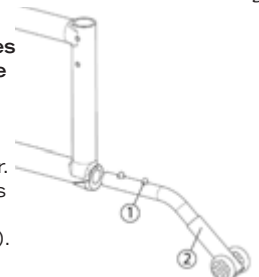

Fig. 8
- Anti-tippers (Fig. 8) were designed to prevent falls from the wheelchair.
- To remove or rotate the anti-tippers up, push the release button (1) and pull out or rotate the anti-tippers (2).